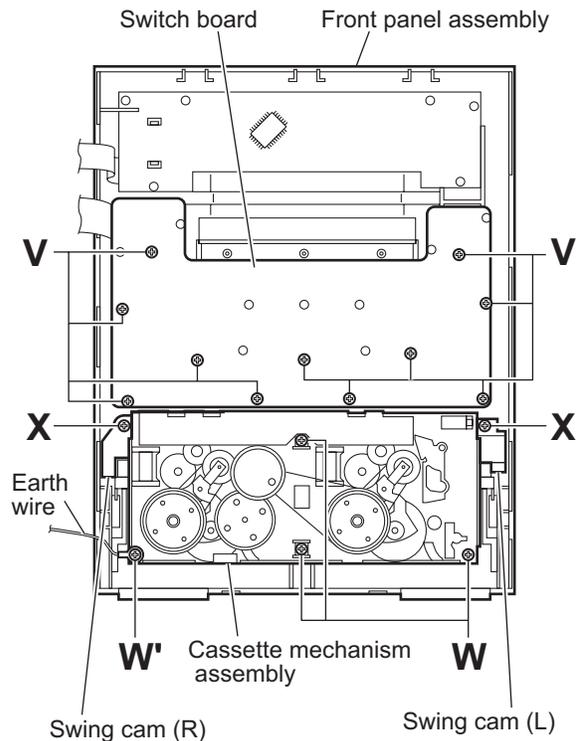

Fig.24
- From the inside of the front panel assembly, remove the eleven screws **V** attaching the switch board. (See Fig.24.)
### 3.1.15 Removing the cassette mechanism assembly (See Fig.24)